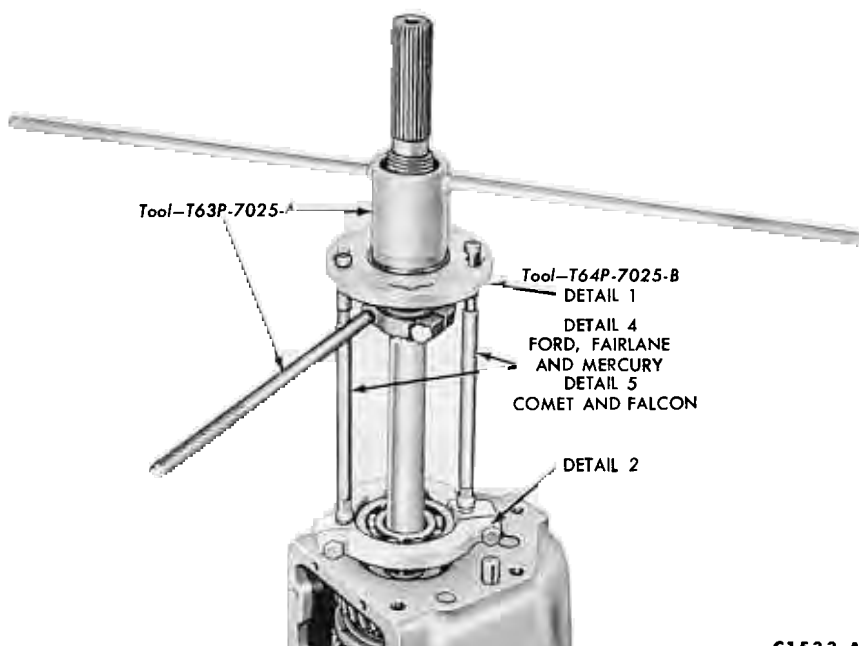

FIG. 6—Removing Output Shaft Bearing
14. Remove the output shaft bearing as shown in Fig. 6.